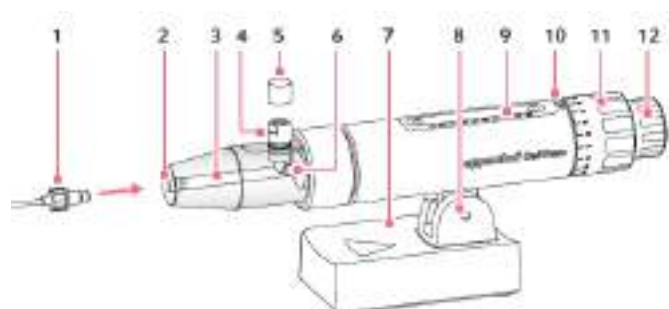
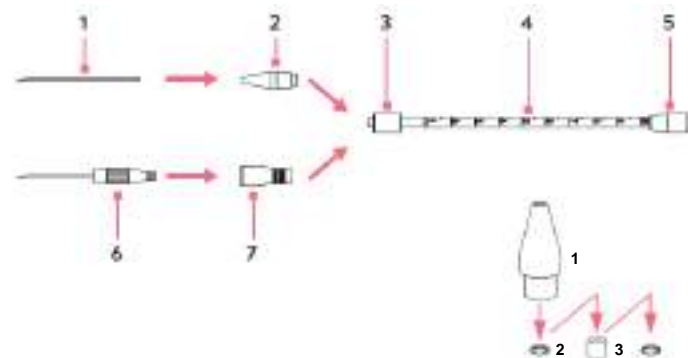

Fig. 1: CellTram 4 Oil
Fig. 2a: Capillary holder 4
1. Remove your new CellTram 4 Oil from the package. Turn the coarse control knob (see Fig.1: 11) counter-clockwise to move the piston backwards to piston position 10 (see Fig.1: 9). In this position the metal piston within clear acrylic oil chamber stops at the rear of the chamber (see Fig. 1: 3,6). You will feel resistance). Do not over-turn.
2. Screw one end of the injection tube into the front of the CellTram 4 Oil (see Fig.1: 2) and attach the other end to the rear of the Capillary holder 4 (see Fig.2a: 5). Prepare the grip head 4 with two o-rings and the distance sleeve as shown in Fig. 2b. Mount the grip head 4 system onto the front end of Capillary holder 4 (see Fig.2a: 3) **but make sure not to screw it too tightly, let it loosen about one third of a turn.**
4. Remove the dust cap from the filling valve (see Fig.1: 4, 5). Screw the threaded end of the filling tube into the filling valve (see Fig.3a) on the CellTram 4 Oil. Fill the oil chamber about half way with oil. Leave the syringe attached to the filling valve and hold the CellTram 4 Oil vertically with the oil chamber pointing toward the ceiling. You can rest the base of the CellTram 4 Oil on the edge of a counter, but make sure you can still turn the knobs.
Once the CellTram 4 Oil is filled with oil and sealed, turning the coarse rotary knob too quickly counter-clockwise will result in too strong of a vacuum and may degas the oil - gas may be pulled out of solution forming bubbles in the oil chamber or in the injection/pressure tube. Too high pressure can fire a microcapillary out of the capillary holder into the room and risks injury. When the system is sealed, be careful to always turn the coarse knob slowly, no faster than about one full rotation every 3 sec. The fine control knob (see Fig.1: 12) is normally used for injections and turning this quickly will not cause any problems.
3. Fix with your index finger the slightly loosened grip head against the capillary holder to avoid any air bubbles that may appear between the grip head and capillary holder and then turn the fine or coarse control knob (see Fig.1: 11,12) on the CellTram 4 Oil to purge any unseen air bubbles within the capillary holder or grip head. Removing a capillary out of the grip head usually leaves also two or three bubbles hidden in the O-rings and distance sleeve of the grip head (see Fig. 2b).